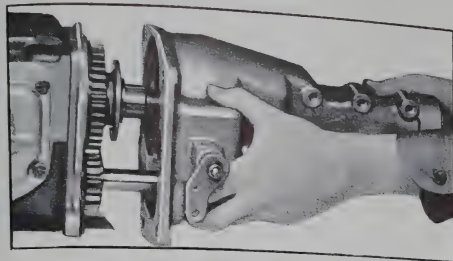

Figure 4-147—Installing Case Extension to Transmission Case
17. Place the two clutches in neutral position. Pull reverse shifter shaft to left side of extension and rotate shaft to bring reverse shift fork as far forward in extension as possible. Start the extension onto the transmission case (Figure 4-147) while slowly pushing